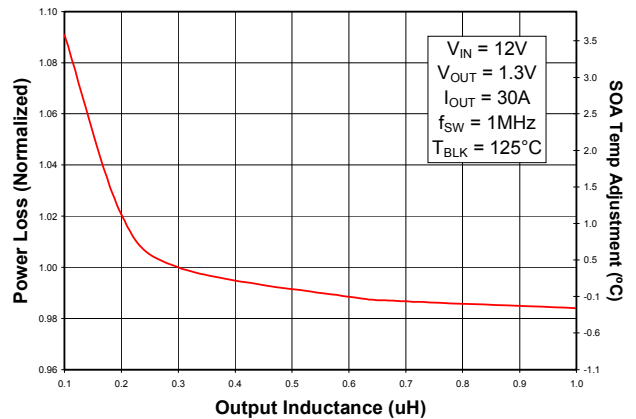

Fig. 6: Normalized Power Loss vs. Inductance
- (Fig. 6) Normalized power loss for inductor value \approx 1.02
- (Fig. 6) Normalized SOA Temperature for inductor value $\approx 1.1^\circ\text{C}$